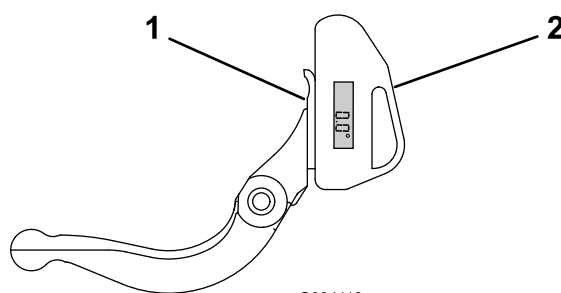

Figure 24
1. Place the angle indicator on the bottom side of the bedknife as shown in Figure 24.